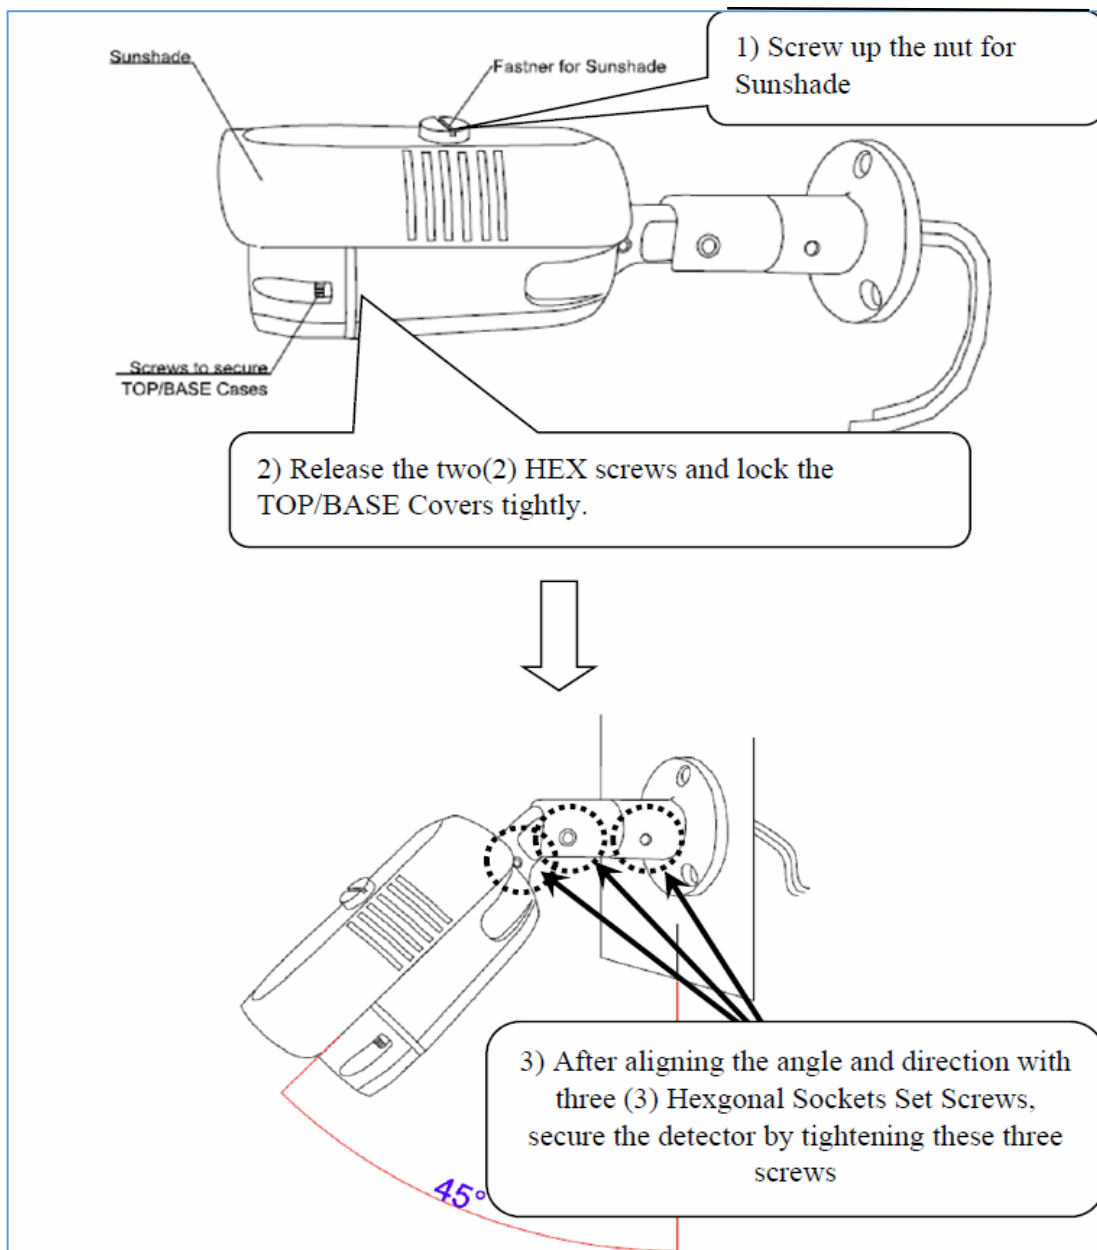

Figure 3. Final installation & Adjustment
| Figure 3. Final Installation & Adjustment | 6 |
- 1). Shown Fig.3, after screwing Top / Base Covers & Sunshade, place the detector in its designated locations on the wall and secure it with the provided three (3) fasteners through three (3) holes of detector mounting bracket.